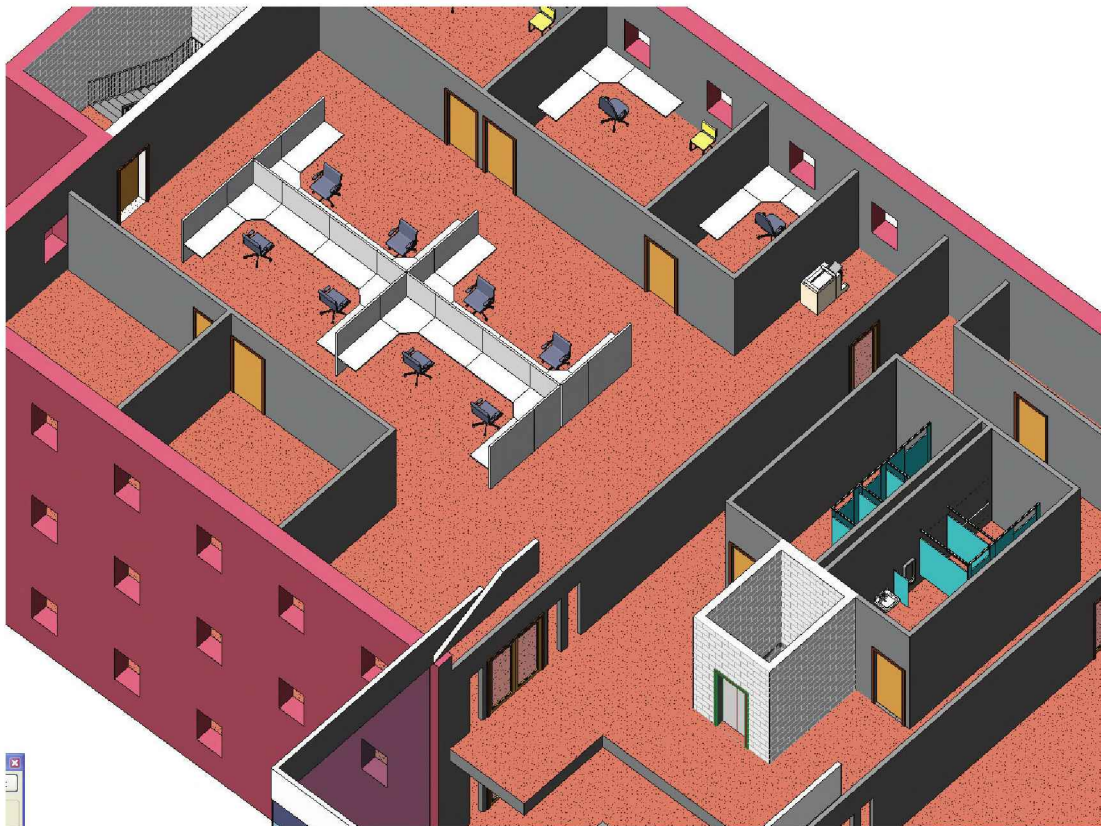

FIGURE 11-3.3 3D view with roof not visible
12. Adjust your 3D view to look similar to **Figure 11-3.3** by clicking and dragging your mouse on the *ViewCube*.